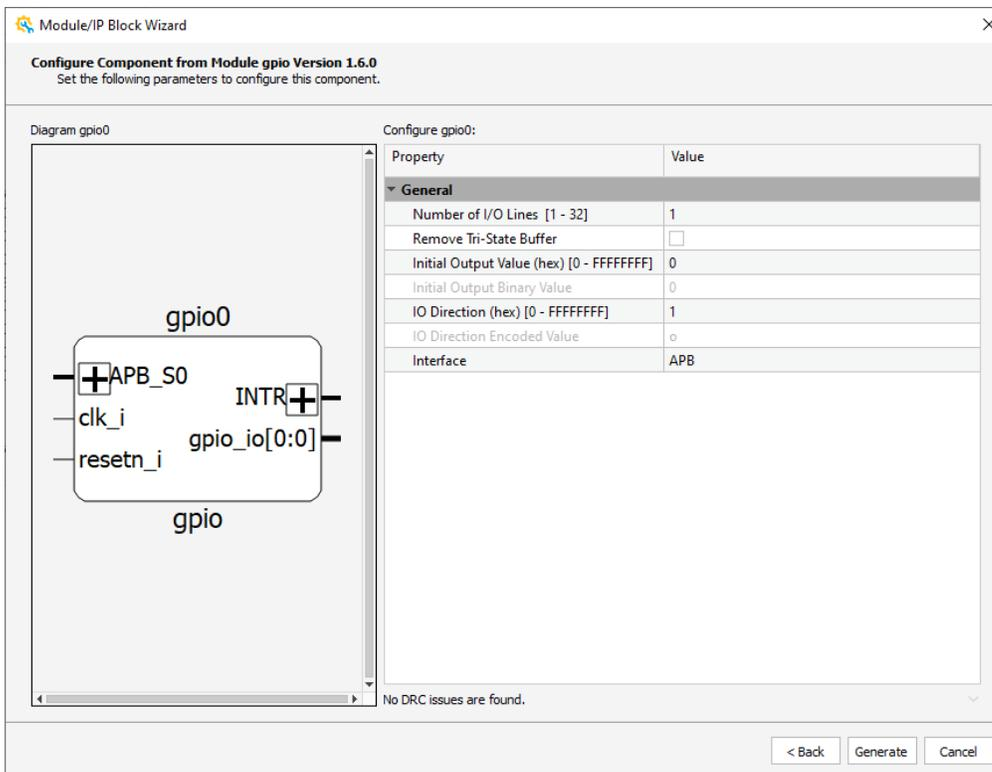

Figure 2.16. Module/IP Block Wizard - Configure Component from IP Gpio Version 1.6.0
- Enter a component name in the **Component name** area, such as gpio0. Click **Next**. Module/IP Block Wizard shows the **Configure Component from IP gpio Version 1.6.0** page (Figure 2.16).